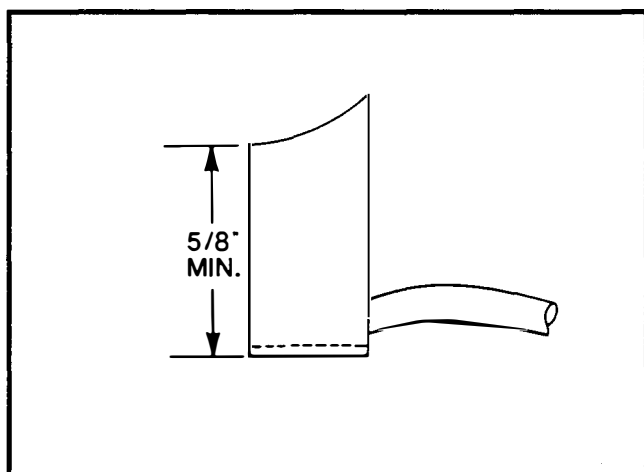

FIG. L-4 MINIMUM BRUSH LENGTH
- b) Check each brush for free movement in its holder and examine it for wear and general condition. If brush is broken, cracked, severely chipped, or worn to a length of less than 5/8 inch measured on the short side of the brush, replace it (FIG. L-4). Whenever any brushes are replaced, it is good practice to replace all of them. Keep extra brushes on hand.